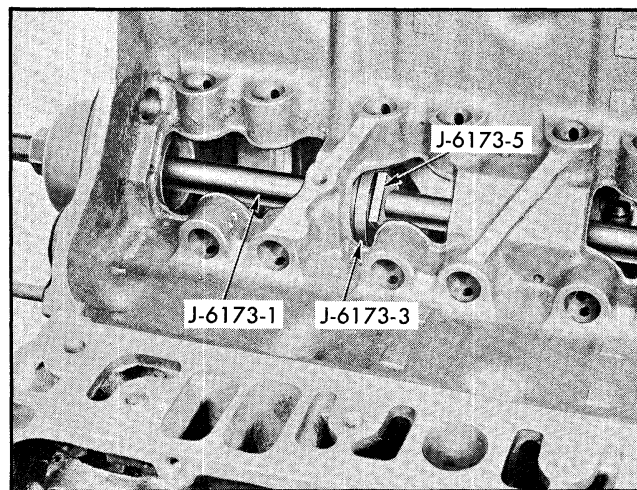

Fig. 6-122 Preparing to Remove Camshaft Bearing
5. Slip key J-6173-5 into notches in shaft behind bearing to be removed (Fig. 6-122).